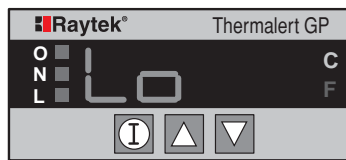

Figure 12: 4mA Analog Output Display
1. Press the  button until the 4 mA output display (Figure 12) displays.